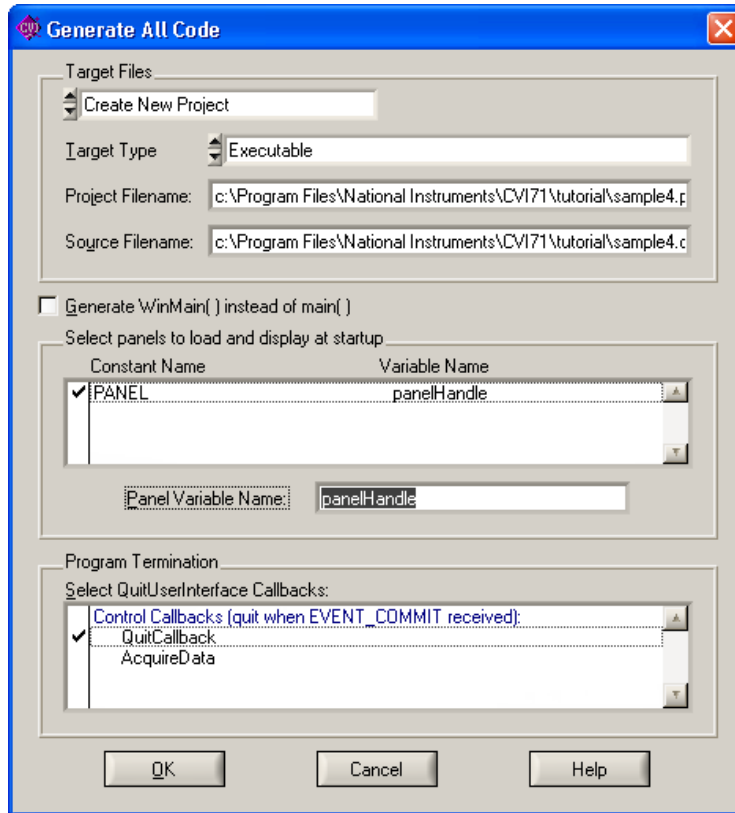

Figure 5-4. Generate All Code Dialog Box
6. The Program Termination section lists the callback functions in the `.uir` file. Select a function from this list that causes the program to terminate execution. In this case, select the **QuitCallback** function in the dialog box so that a checkmark appears next to it. Verify that the Generate All Code dialog box matches the one shown in Figure 5-4.